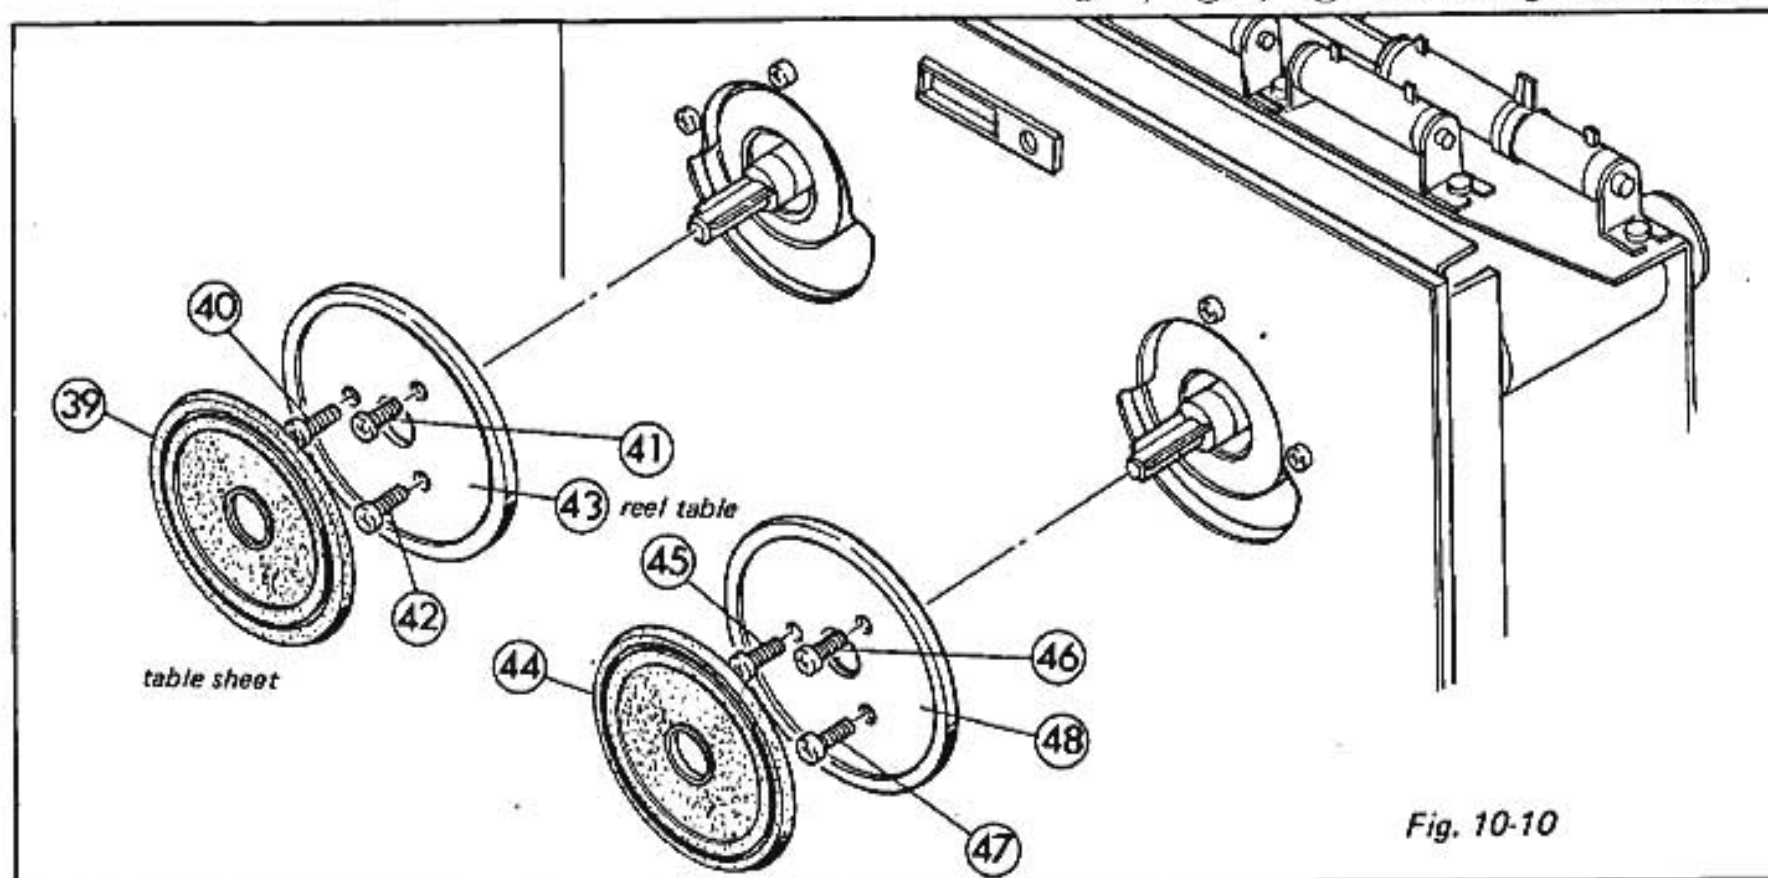

Fig. 10-10
1. Disassembly (See Figs. 10-10, 10-11, 10-12)
- 1) Remove the two reel tables 43, 48 by removing the two table sheets 39, 44 and the six B type screws 40, 41, 42, 45, 46, 47. See Fig. 10-10.
2. Assembly (See Figs. 10-10, 10-11, 10-12, 10-13, 10-14, and 10-15)